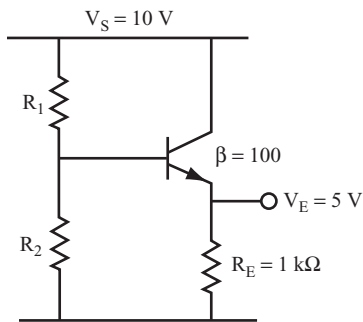

FIGURE 8.26
A simple design example illustrates this procedure. Use the values shown in the circuit in Figure 8.26 for this problem.
- 5 volts (This was given in Figure 8.26.)
- 1 k Ω (This was given in Figure 8.26.)